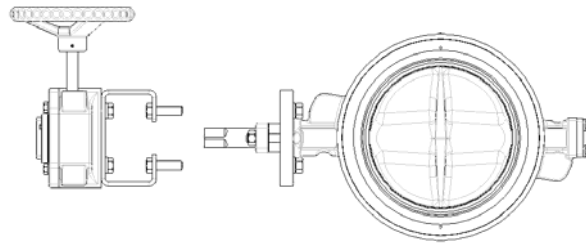

Fig.20
- 12.2.1. Place the valve on a bench or other suitable working surface with the drive shaft side of the valve up. Remove the actuator and actuator bracket from the valve. (Fig.20)